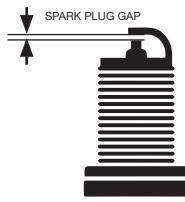

Figure 26
- Spark plug gap (the acceptable limit of 0.027–0.032 in. [0.70 – 0.80 mm]) (see Figure 26).